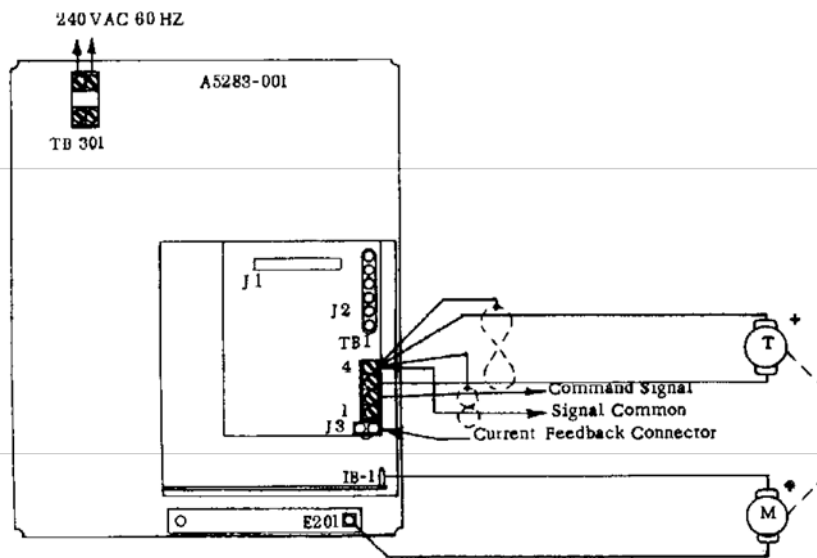

Fig. 1
**WIRING:** Connect the amplifier as shown in Fig. 1, Installation Drawing 28900 Sheet 6.
1. Connect the amplifier in accordance with Fig. 1 and the specific Installation Drawing.